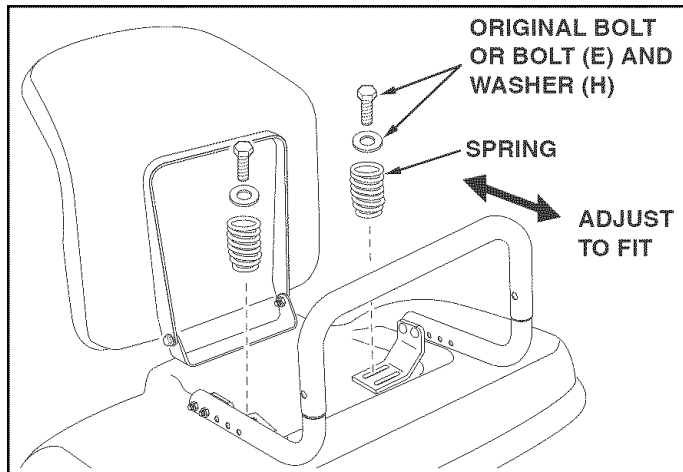

FIGURE 7
STEP 7: (SEE FIGURE 7)
- If the base leg tubes rub against the fender, attach the adhesive pads (K) to the bottom of the base leg tubes.
- Attach the seat springs and the base brackets to the rear fender using the spring bolts that you removed. On GT tractors, if the spring bolts were less than 1" long, use the 5/16" x 1" bolts (E) and 5/16" washers (H) supplied with the Sun Shade. Align the base leg tubes on the rear fender. Use a 1/2" socket (GT) or a 9/16" socket (LT) to tighten the seat spring bolts **using moderate force. Do not overtighten.** Next, **tighten** the bolts fastening the base leg tubes to the base brackets.